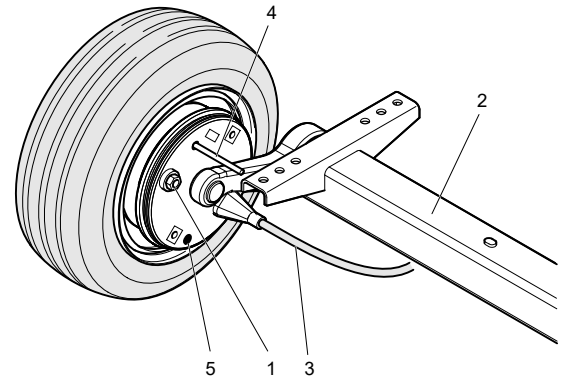

Fig. 5.5 Brake shoe adjustment
Lift and support the compressor. Make sure that all brakes are off (overrunbrake and hand brake lever). The brake cables must be free from tension. Lock the swivel cams of the wheel brake from the outside by means of a pin  $\varnothing$  4 mm (4) through the hole as shown in Fig. 5.5.